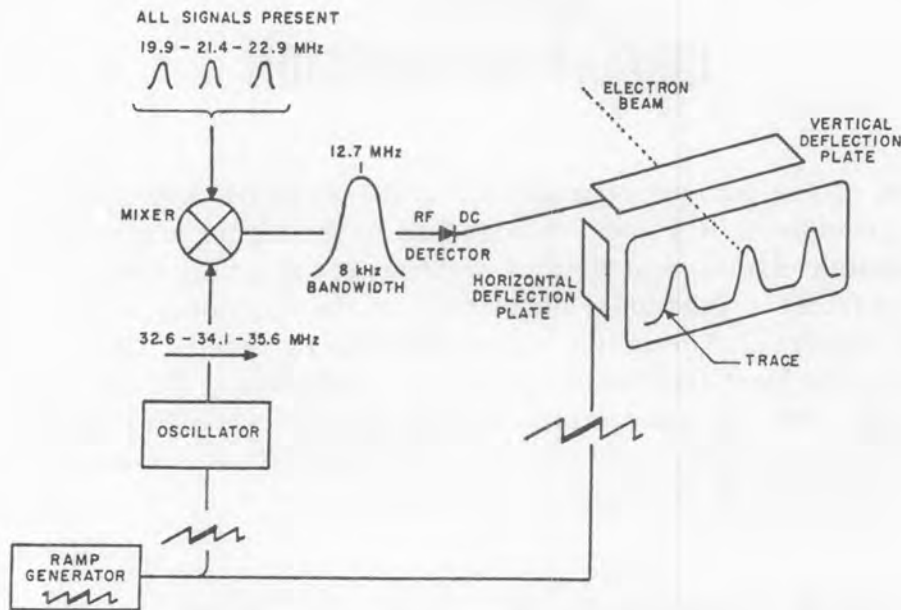

Figure 3-2. Signal Monitor Basic Operation
Functional descriptions are written against Functional Block Diagram Figure 3-1 and simplified signal monitor diagram Figure 3-2. The functional diagram illustrates each major item necessary to understand the relationships of circuits in the signal monitor. The simplified diagram shows the basic principles of operation of a signal monitor as an introduction to the actual circuits used in the WJ-9026/DU.
3.2.1 SIGNAL MONITOR THEORY. - Figure 3-2 shows a simplified diagram of the operation of the signal monitor. First note the ramp generator. It produces a slowly rising voltage which quickly returns to its reference at regular intervals to give a repetition rate of about 18 Hz (5.3 ms period). This ramp is applied to the horizontal deflection plate to drive the electron beam across the face of the cathode ray tube. When the ramp voltage drops to its referenced level, the trace quickly returns to the left side of the crt face. The next ramp voltage then begins to drive the trace across the face again, and the cycle repeats.